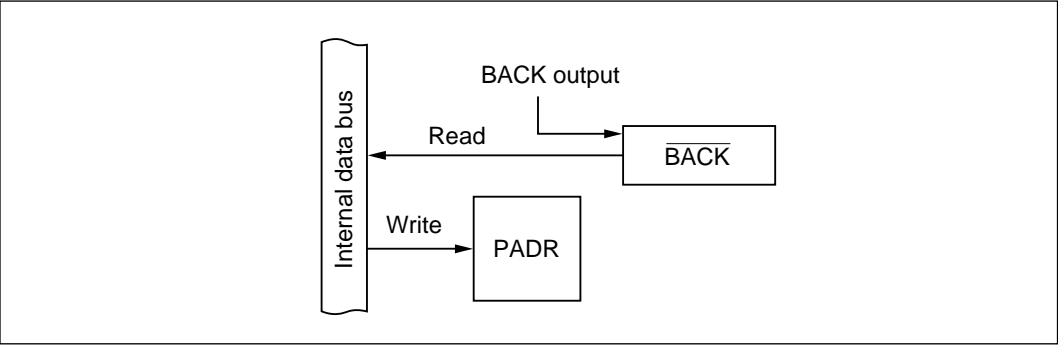

Figure 9-64 $\overline{\text{BACK}}$ Output Pin (Modes 1 to 6)
(4) **$\overline{\text{BACK}}$ Pin (PA_6 ; Modes 1 to 6):** Figure 9-64 shows a block diagram illustrating the $\overline{\text{BACK}}$ function. Table 9-47 indicates register read/write data. When PA_6 is used for $\overline{\text{BACK}}$ output, the value written in the port A data register (PADR) has no effect. When read, PADR returns the level of the $\overline{\text{BACK}}$ signal.